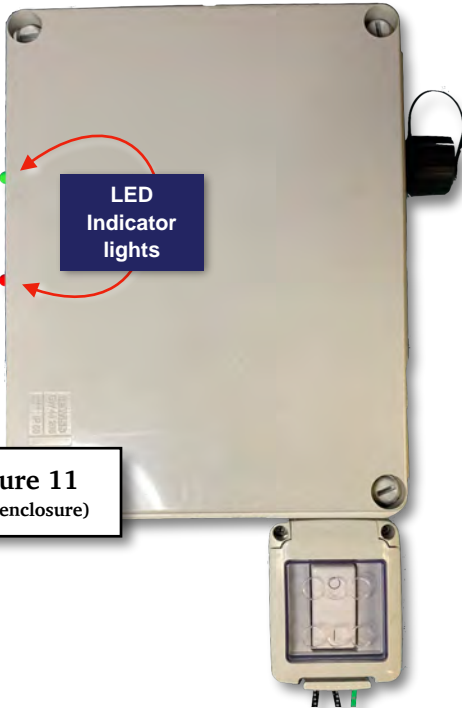

Figure 11
- 1** Once the Hub and associated Nodes are installed according to SECTIONS I & II, turn Hub switch to energized position. A green LED light on side of Hub should be illuminated at this stage (**See Figures 11 & 12 for location of LED indicator lights**).